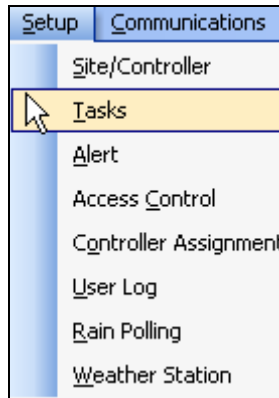

Figure 11.0.1
1. In the toolbar at the top of the screen select **Setup** and scroll down to **Tasks** and click on it (Figure 11.0.1).